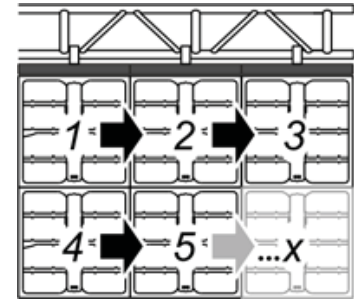

Figure 1-6.
- 9 Lift an LED panel (4) into place below the first panel (1). See Fig 1-6.